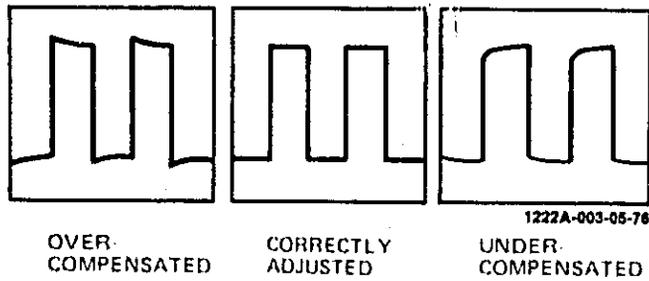

Figure 3-2. Divider Probe Adjustment Display
f. Adjust divider probe compensation adjustment for correct display (see figure 3-2).